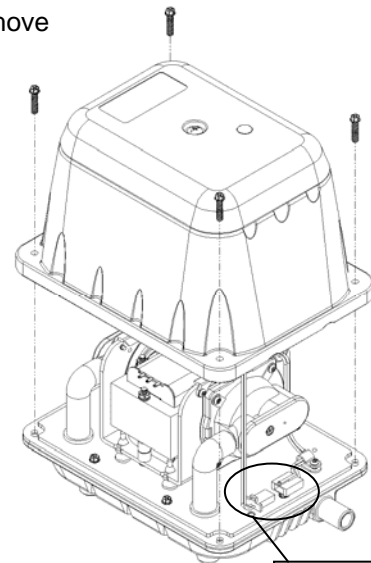

Figure 2
**IMPORTANT:** Be careful **Not** to pull off the upper housing to rip the connecting wire apart.(As shown in Figure 2)